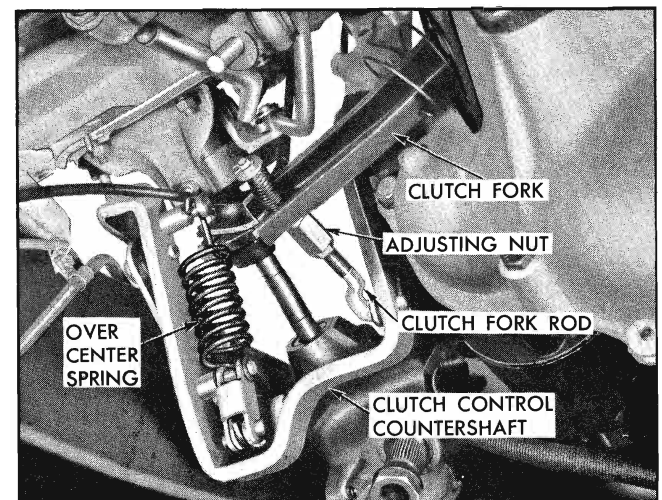

Fig. 9-25 Adjusting Pedal Lash
20. Adjust pedal lash by loosening clutch fork rod adjusting lock nut (Fig. 9-25).